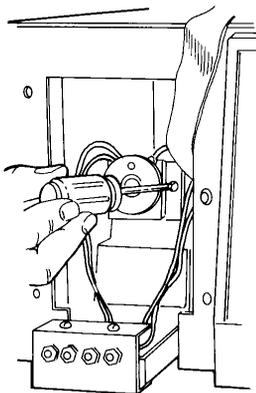

Figure 5-6 Removing Binder-head Screws from Flow Cell
Figure 5-6 illustrates how to remove the binder-head screws from the flow cell.
2. Remove the two large binder-head screws and star washers from the front of the flow cell (Figure 5-6).
7. Install the two binder-head screws and star washers into the front of the cell, while holding the flow cell in place, (reverse of Figure 5-6).